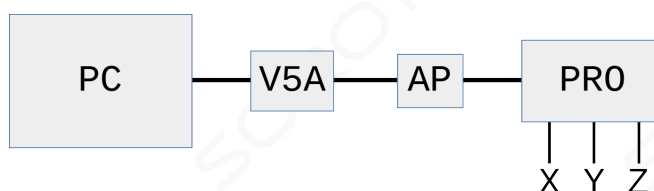

Fig. 11: Signal chain from PC, Eding V5A, adapter board and PRO control
- The adapter board shown in Fig. 10 must be inserted between the Eding V5A and the MIDI control. Fig. 11 shows the complete signal chain.